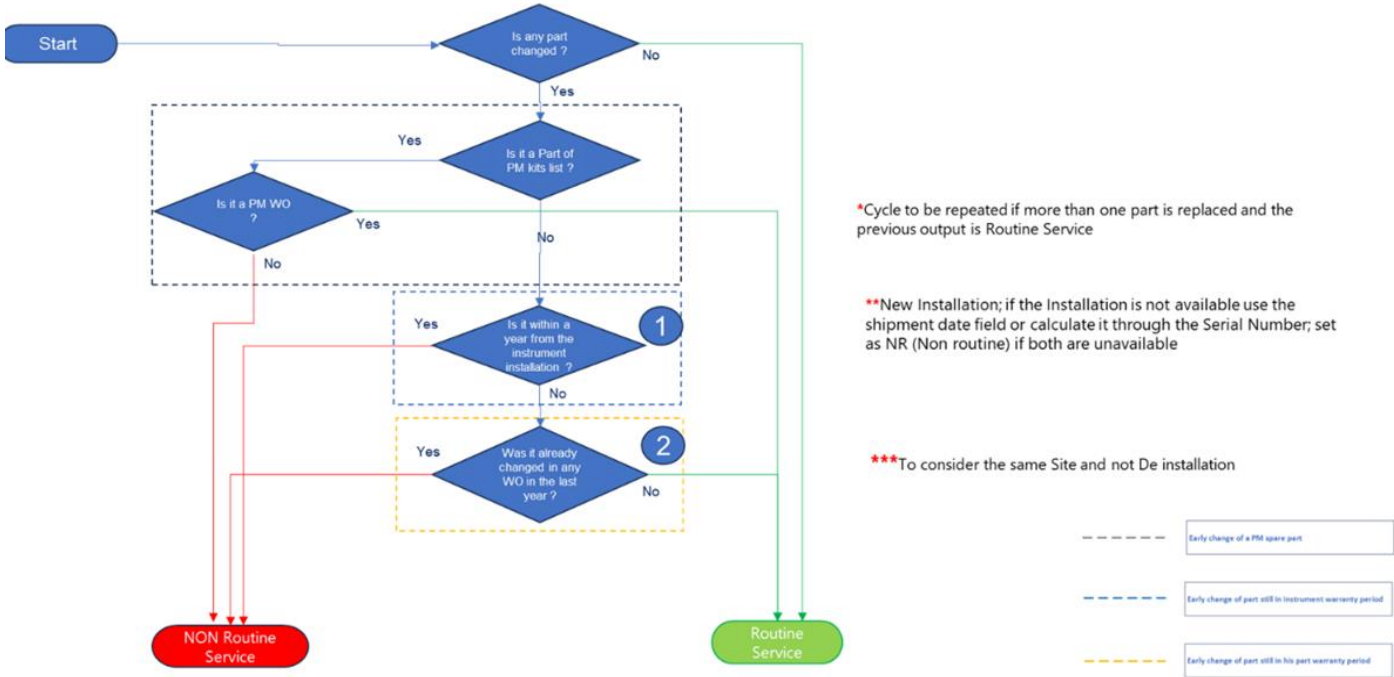

Figure 6-1. Routine vs Non-Routine Assessment Flowchart
- If the part was replaced within a year from the instrument installation (Number '1' in Figure 6-1), reference the flowchart below:
- If the part was replaced less than one year after the previous replacement (see Number 2 in Figure 6-1), refer to the flowchart below: